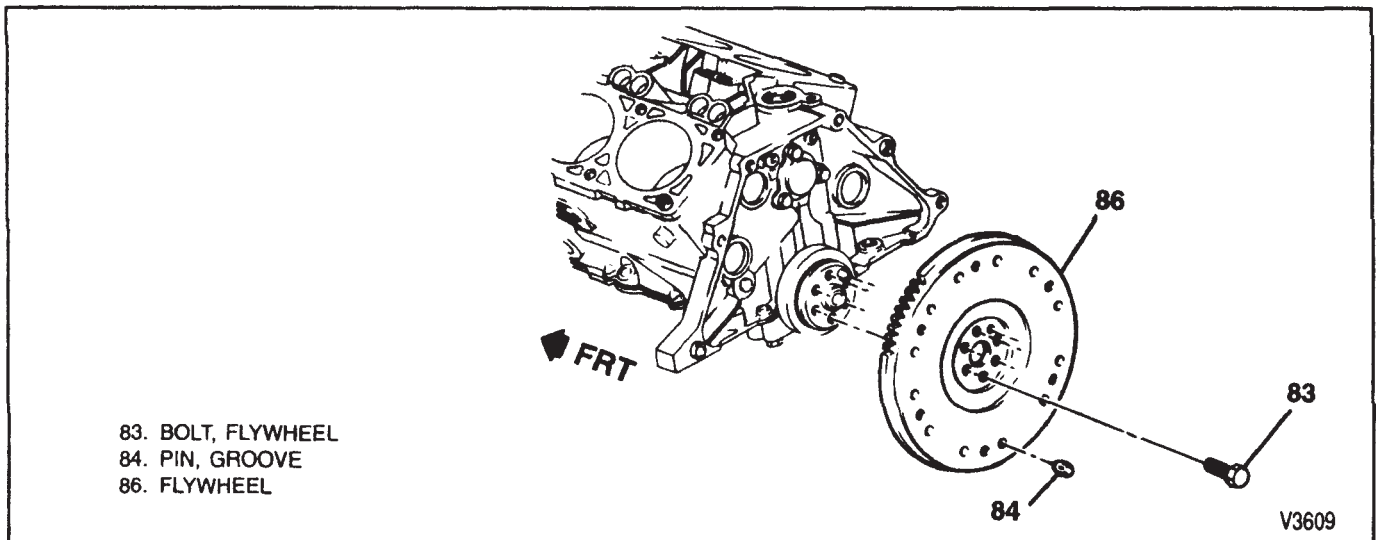

Figure 34—Flywheel and Components
**Remove or Disconnect (Figure 34)**
**Install or Connect (Figure 34)**